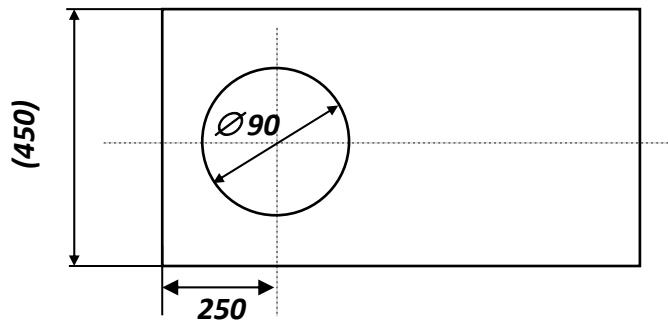

Fig 2
- 2.2 Place the instrument on the prepared solid working table; (for the construction of the table, see Fig.2);